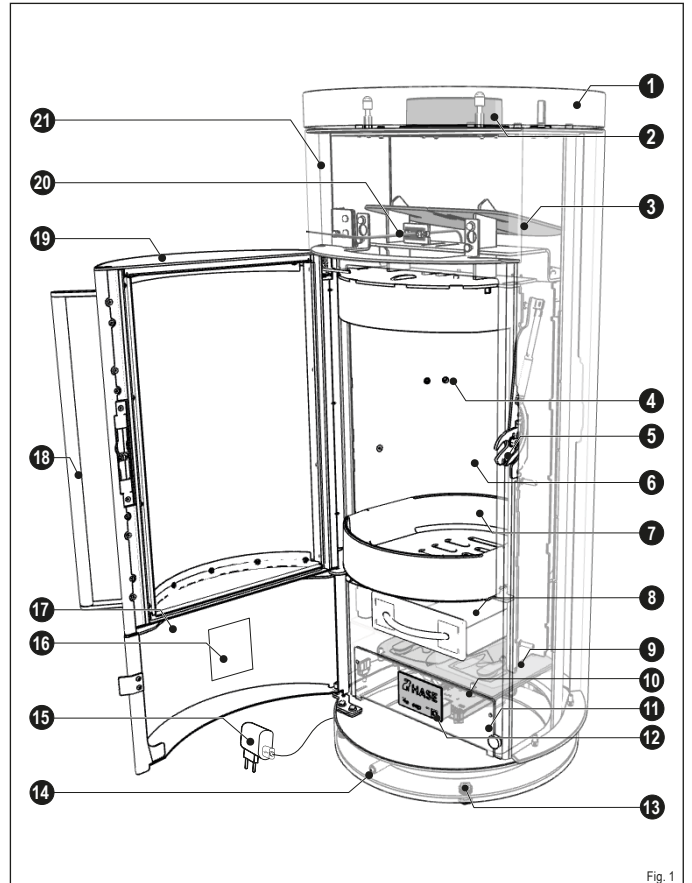

Fig. 1
- The firebricks (Fig. 1, No. 6) are made from vermiculite (fireproof mineral).
- The firebox door (Fig. 1, No. 19) of the stove is self-closing, i.e. the firebox door handle (Fig. 1, No. 18) must be held when opening the firebox door (e.g. when adding fuel).
- When the firebox door handle is released, it will close and catch in the door latch (Fig. 1, No. 5) and automatically seal the firebox.
- The iQ technology (Fig. 1, No. 9-10; 12; 14, 20) automatically controls the optimal combustion air setting and firebox temperature to ensure complete, low-emission combustion.
- The stove consists of a steel body (Fig. 1, No. 21) and depending on the model with steel, ceramic or soapstone cladding to increase thermal storage.
- The stove can be levelled with the adjusting screws (Fig. 1, No. 13) to compensate for uneven installation sites.
- The ash drawer (Fig. 1, No. 8) collects ashes and must be emptied regularly. (see chapter "7.3.3 Cleaning the ash drawer and fire grate")
- The control elements, ash drawer and control panel can be accessed via the service door (Fig. 1, No. 23).
- The control panel (Fig. 1, Pos.12) is used to switch the controller on and off.
- The type label (Fig. 1, No. 16) is located on the inside of the service door.
- The mains plug and the USB-C cable (Fig. 1, No. 15) connect the iQ technology to the mains.